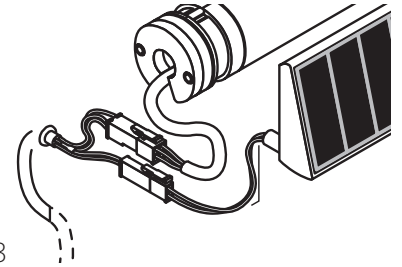

Fig. 3
2.3. Fixing the panel. (fig. 3)